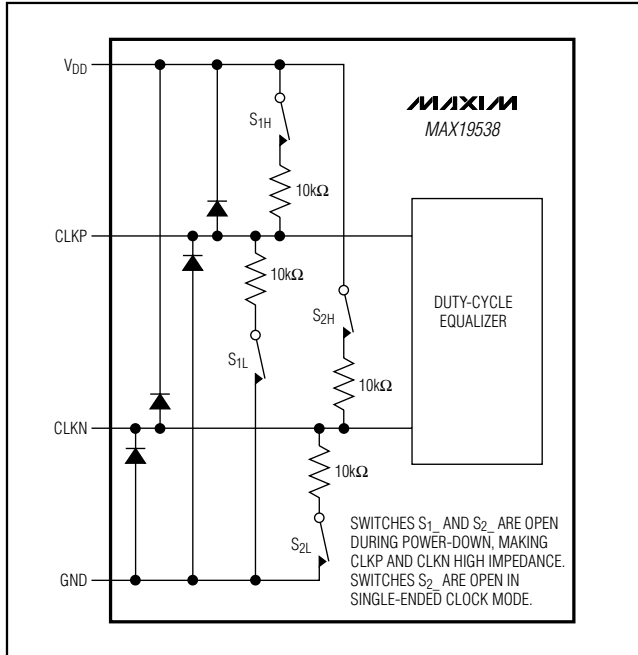

Figure 5. Simplified Clock Input Circuit
CLKP and CLKN are high impedance when the MAX19538 is powered down (Figure 5).
- CLKP, CLKN go high impedance (Figure 5).